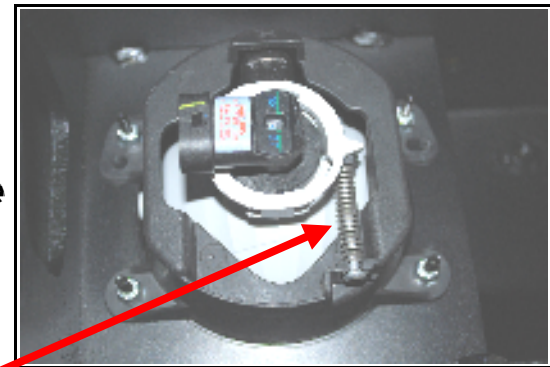

Figure 2
Step 5 - Install factory fog lights into Hyline Front Bumper. Make sure the adjustment screw is facing toward the bottom of the bumper. There is a hole in the bumper to allow adjustment after installation. Assemble fog lights using supplied 10-32 Lock Nuts and Flat Washers Tighten the nuts with 11/32" Deep Socket or Nut Driver (See Figure 2)